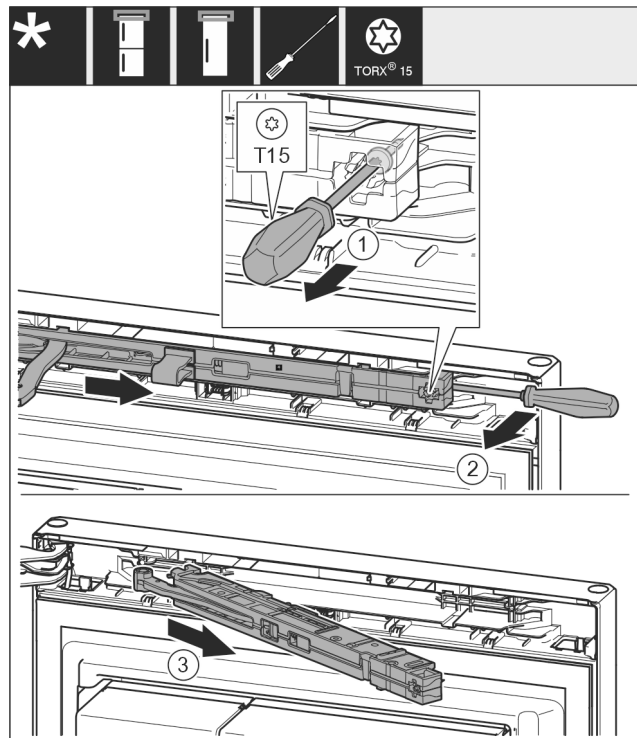

Fig. 7
- Undo the soft stop mechanism screw with a T15 screwdriver approx. 14 mm (9/16 in). Fig. 7 (1)
- Insert a screwdriver behind the soft stop mechanism on the handle side and rotate the unit forwards. *Fig. 7 (2)*
- Pull out the soft stop unit. *Fig. 7 (3)*